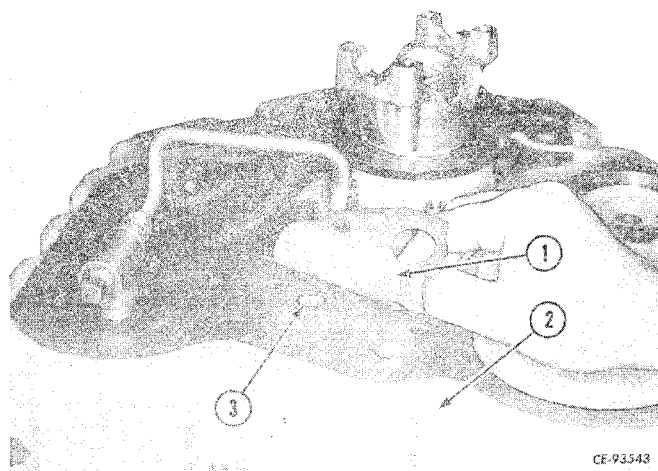

Figure 3-44
Install a new "O" ring (3, Fig. 3-44) in position in the groove of the front housing (2). Retain the "O" ring with petroleum jelly. Position a new gasket (1) on the housing.